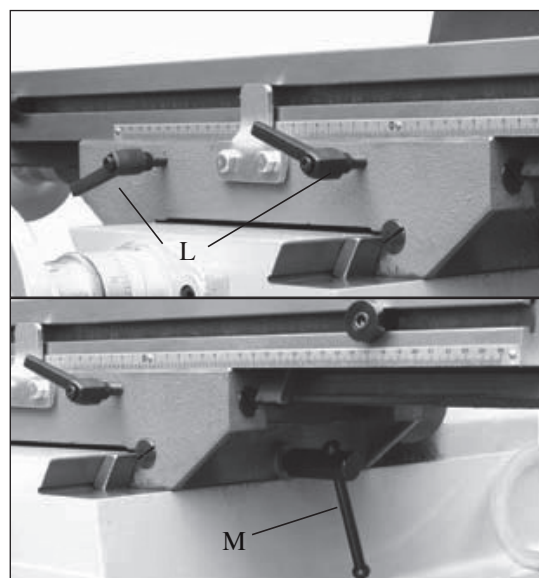

Fig. 9.2
5. Lock the table using two lock levers (L-fig.9.2) for Y-axis, the lock handle (M-fig.9.2) for X-axis. Turn clockwise to lock and counter-clockwise to unlock.
15. Unlock the table, use the table lock levers (L-fig.9.2) and lock handle (M-fig.9.2)